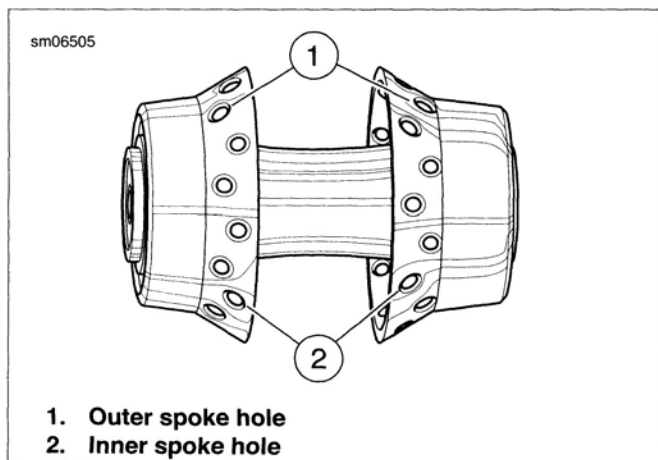

Figure 2-18. Angle Flange Hub
- See Figure 2-18. The following procedure is valid for 40-spoke wheels that use an angle flange hub regardless of rim style or diameter.